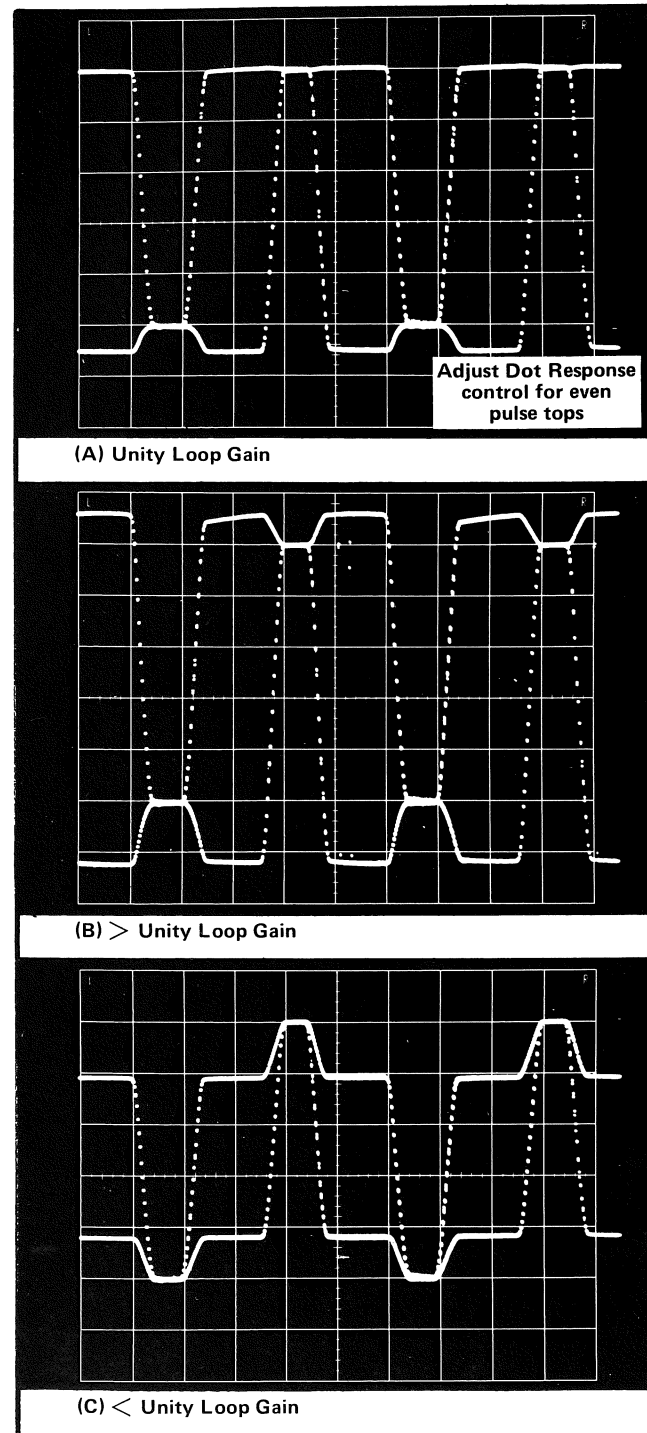

Fig. 6-4. Waveforms demonstrating adjustment of Dot Response controls.
f. Using the sampling oscilloscope sampling sweep trigger sensitivity and trigger recovery time controls, obtain a mis-triggered display similar to one of the waveforms in Fig. 6-4.